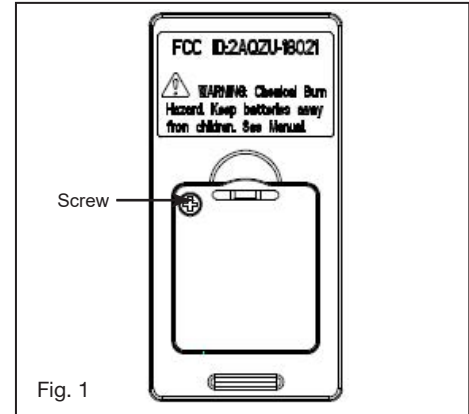

Fig. 1
1. Insert the receiver into the ceiling mounting bracket with the flat side of the receiver facing the ceiling. (Fig. 1) For best performance, make sure the Black Antenna and WIFI Antenna, on the end of the receiver, remains extended and not tangled with any of the electrical wires.
- 1 Remove one of the three screws on the mounting hub located on the fan motor. (Fig. 1)
- 2 While holding the LED assembly under your fan, make the polarized plug connections: (Fig. 1)
- 3 Tuck connections neatly into LED assembly, place the LED assembly to the mounting hub with 3 screws provided. (Fig. 1)
- 4 Raise the light cover against the LED assembly and turn clockwise until snug, DO NOT OVERTIGHTEN. (Fig. 1)
- 1 Select a desired location. Use the wall plate to mark the location of the mounting holes. Plastic wall anchors or mounting screws are needed for this application. (Fig. 1)
Remove the panel from the transmitter and then install one 2032 battery (included). You need to use a screwdriver to open or close the battery cover. To prevent damage to transmitter, remove the battery if not use for long periods of time (Fig. 1)